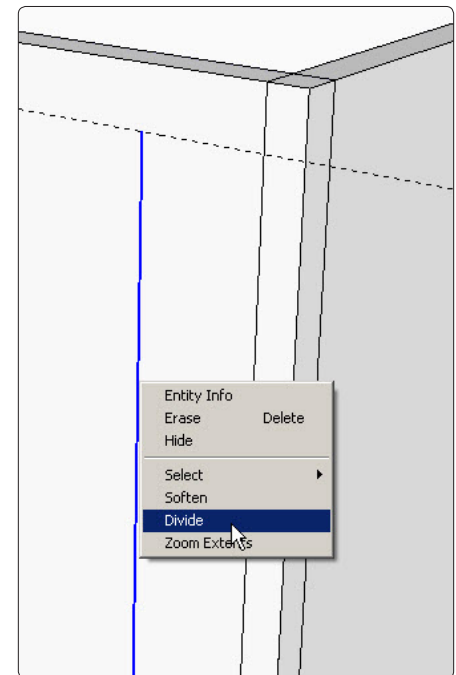

Figure 19. Draw a line and divide it into segments. You'll use the divisions to place copies of the pin shapes quickly and precisely.
Step 3 Use the Line Tool to draw a line along the blue axis between the two guide lines, as shown in Figure 19. Right-click on the line and choose Divide from the pop-up menu. Hover the mouse over the line and watch the number of divisions change as you move along the blue axis. Tap the mouse when you reach the desired number of segments. I stopped at seven, as shown in Figure 20. This gives me eight nodes for locating the pins. (The bottom pin is actually a half-pin.)